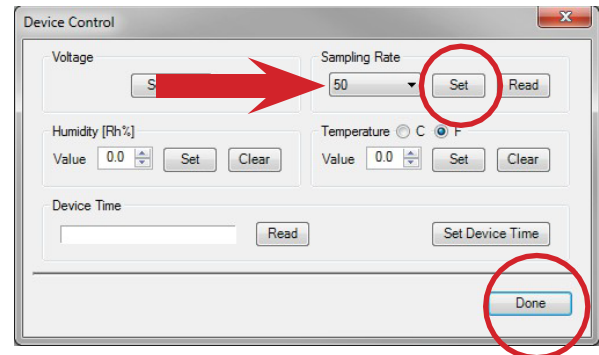

Figure 14: Use Edit Menu to Access Device Control Window to Set Sampling Rate per Second
2. Select **Device Control** (see Figure 14)